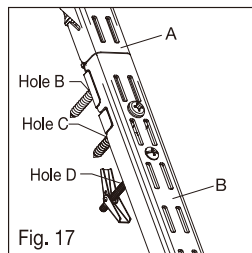

Fig. 17
- Put the lower vertical rail (B) as shown and secure it on hole C with panhead screw (#12 x 2 in.) and on hole D with toggle (3/16 in.) and bolt (3 in.) (see Fig. 17). Make sure the toggle (3/16 in.) and the bolt (3 in.) are installed on lower vertical rail (B) before secure.